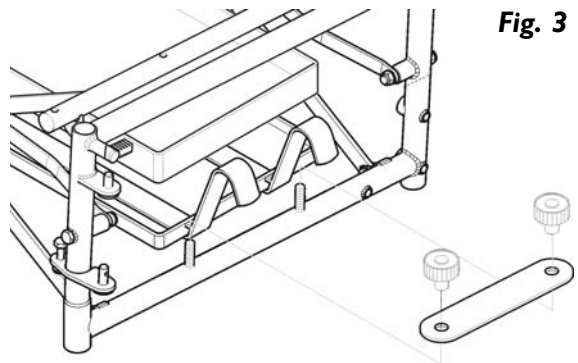

Fig. 3
5. Install Batteries/Cradle, ensure the Cradle is correctly located on the Tubes and fit Cradle Clamp with thumb screws (Fig.3), Strap down batteries by following the procedure described here: Separate the battery hold down strap into two halves by unclipping the buckle.